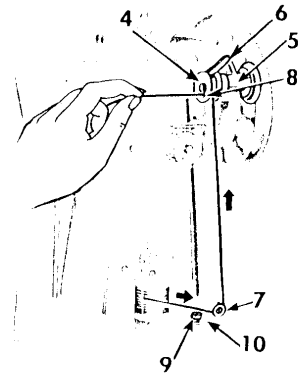

Fig. 14. Winding the Bobbin
- Remove bobbin from spindle 4, Fig. 14.
- Press down bobbin winder until latch 6, Fig. 14, engages.
- Loosen screw 9, Fig. 14.
- Move tension bracket 10, Fig. 14 to left if bobbin winds high on right; move bracket to right if bobbin winds high on left.
- Tighten screw 9, Fig. 14.